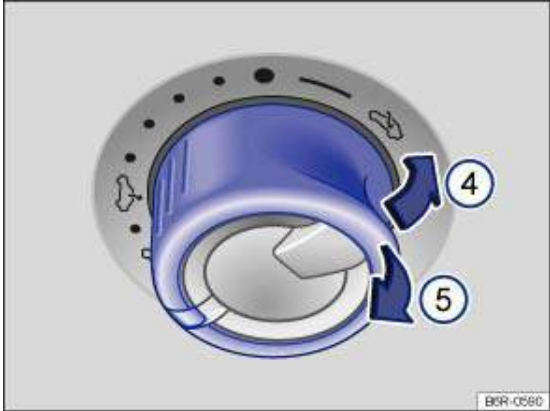

Fig. 38 In the headliner: push the switch to tilt and pull the switch to close
- Pull the switch → *Fig. 38*  within approximately 5 seconds after the roll-back function has been triggered and hold it in this position until the electric panorama sliding/tilting glass roof is closed completely.